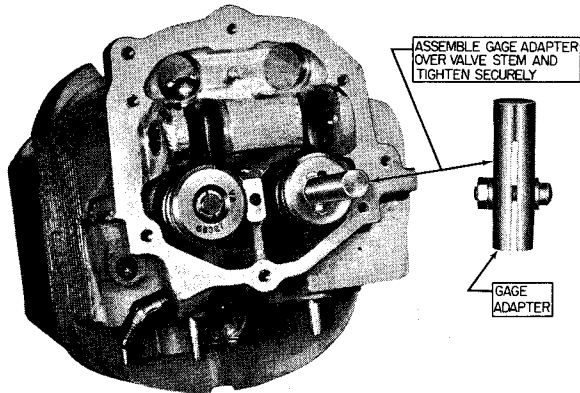

Figure 1. Gage Adapter Assembled on Exhaust Valve Stem
4. Assemble the split gage adapter (figure 1) over the end of the exhaust valve stem and tighten it securely. If the adapter can be moved by hand, it is not correctly assembled nor securely tightened.
8. Assemble the split gage adapter (figure 1) over the end of the exhaust valve stem and tighten it securely. If the adapter can be moved by hand, it is not correctly assembled nor securely tightened.